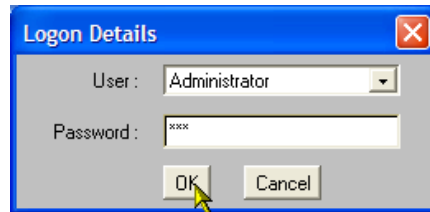

Figure 6: Login Details dialog box
12. In the Logon Details dialog box (see Figure 6), select the user type from the drop-down list, and enter the password.